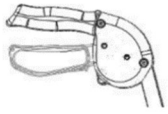

Fig. 5 (unlocked state)
- Pull the brake handles upwards until they are released as shown in fig. 5.